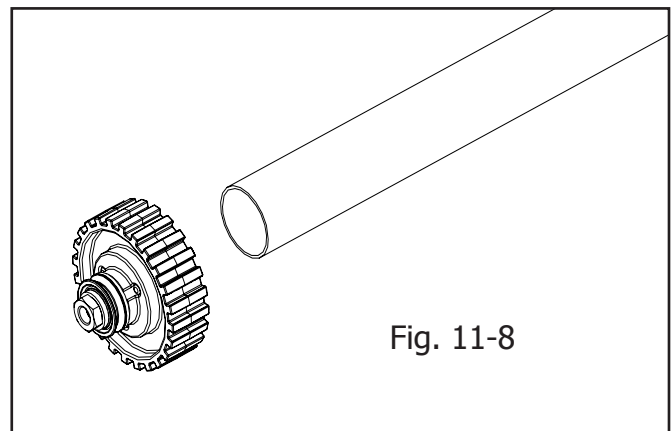

Fig. 11-8
**11-14:** Insert one short-bolt ratchet wheel assembly into the open end of a pole assembly as shown in **Fig. 11-8**. Check that the pole end is inserted completely into the pole assembly.